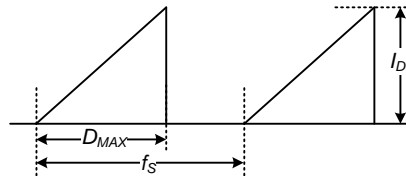

Figure 4. Repetitive Peak Switching Current
- Repetitive peak switching current when the inductive load is assumed: Limited by maximum duty ( $D_{MAX}=0.73$ ) and junction temperature (see Figure 4).